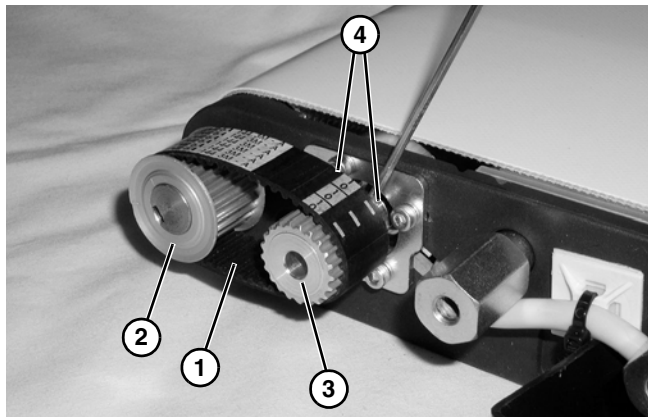

Figure 66
3. Slip timing belt (**Figure 66, item 1**) over driven pulley (**Figure 66, item 2**) and slide drive pulley (**Figure 66, item 3**) through timing belt onto gearmotor shaft.
4. Tighten drive pulley set screws (**Figure 66, item 4**) on gearhead shaft, making sure one set screw is over flat on shaft, and drive pulley is aligned with driven pulley.